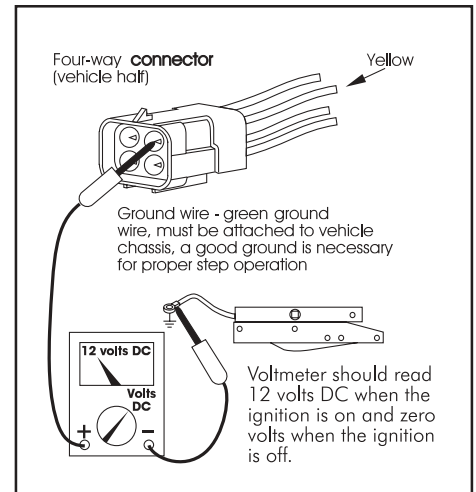

Figure 9 - Checking the ignition override system
15. To check the ignition override system, connect a voltmeter between the yellow wire from the 4-way connector (vehicle half) and the ground terminal on the end of the control unit's green ground wire (see Figure 9). The voltage reading should be approximately 12 volts DC when the ignition is on and zero (0) volts when the ignition is off.